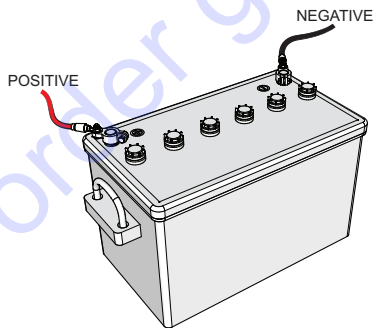

Figure 39. Battery Connections
**ALWAYS** be sure the battery cables (Figure 39) are properly connected to the battery terminals as shown below. The **red cable** is connected to the positive terminal of the battery, and the **black cable** is connected to the negative terminal of the battery.